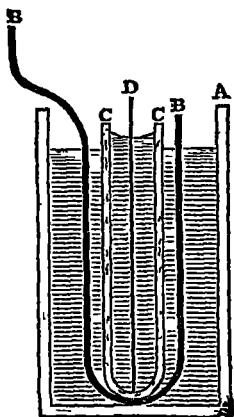

FIG 206
**The Grove cell** —The outer vessel, A (fig 206), is of glazed porcelain, C is a rectangular porous cell containing a plate of platinum, D Around C is bent a plate of amalgamated zinc, B The liquid in C is fuming nitric acid, and in A, dilute sulphuric acid